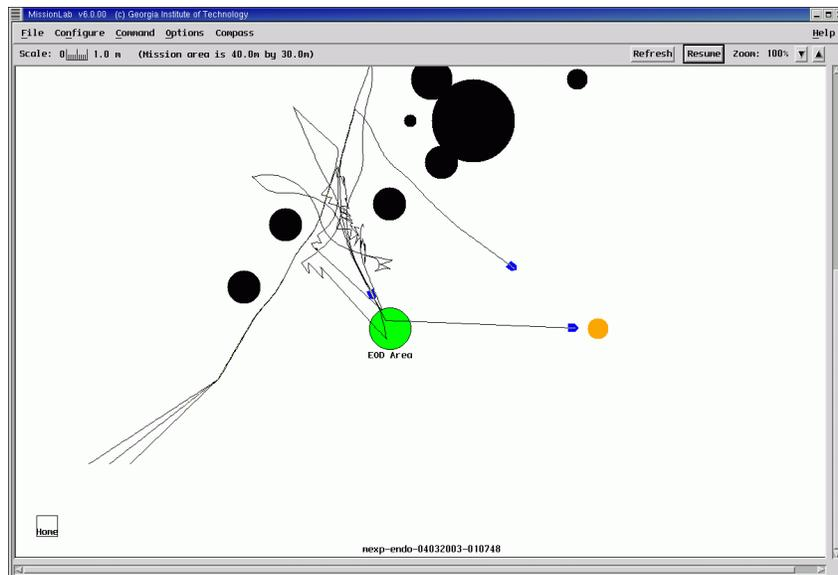

Figure 75: *mlab* showing the three robots executing the EOD task.
- If your robots collect and dispose all the mines (orange objects) in the field (Figure 75), you have successfully created a mission using Mission Expert.